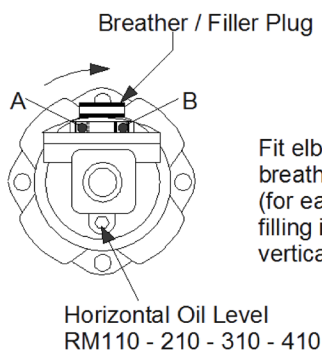
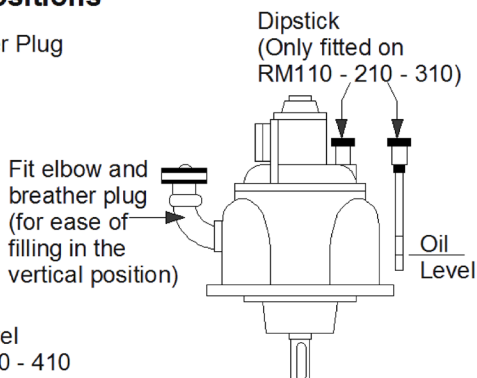

Fig. 1
Fig. 2
The motor is normally mounted in a horizontal position with the filler / breather plug towards the top (Fig. 1). It may also be mounted with the shaft vertically downwards (Fig. 2). As supplied the motors have been run up and tested using protective oil and then drained for transit. It is vital that each motor is re-filled to the correct oil level as shown below. The RM 110 - 310 motors have a dipstick for vertical mounting (Fig. 2) and the lower mark on this dipstick provides the oil level. Oil levels are achieved on motors in the horizontal position by filling to the plugs marked 60 (RM 110-410 models) and plug 26 (fitted in housing 3 RM510-610 models). (numbers indicate parts on exploded view) The vertical oil level position for the RM410, RM510 and RM610 motors is a combined horizontal drain and vertical level plug (part number 26). To fill motors with oil remove the combined breather and oil filler plug part number 46. Ensure the breather plug is in the vertical position. It may be necessary to fit an elbow between the breather plug and the motor (see Fig. 2).
Mount motor in operating position. Check oil level, (as seen on Fig. 1). Before connecting to the air supply blow out the air lines to remove any loose scale, swarf or abrasive dust which may be present. Remove the red plastic dust-caps and the 'O' ring seal (45). For unidirectional operation check the required direction of rotation and connect the air supply line to the appropriate port on the inlet / exhaust adaptor plate (72) leaving the other port open or pipe downwards if exposed to the atmosphere. The motor should not be allowed to race. Always operate within the catalogue speed curves.